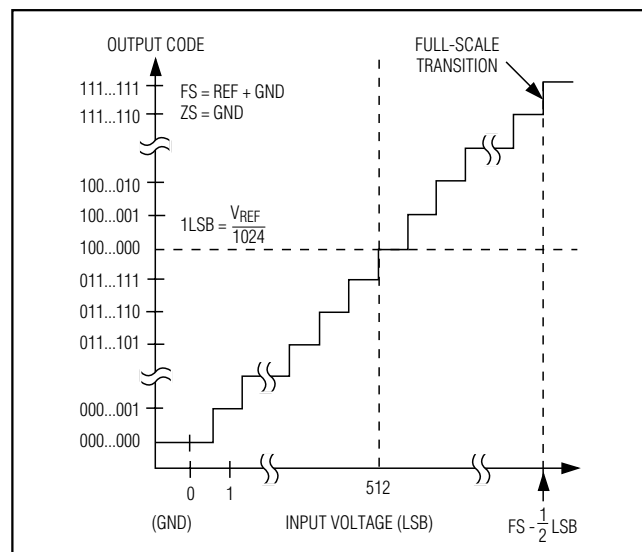
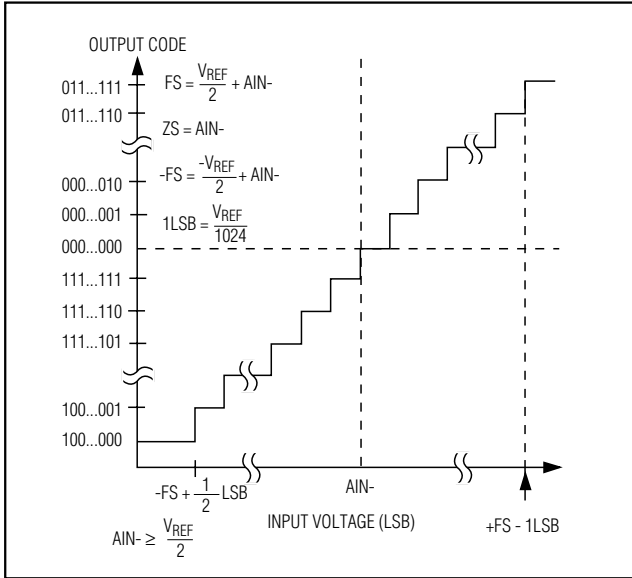

Figure 12. Unipolar Transfer Function
Figure 13. Bipolar Transfer Function
Output data coding for the MAX1136-MAX1139 is binary in unipolar mode and two's complement in bipolar mode with 1LSB = (VREF/2N) where 'N' is the number of bits (10). Code transitions occur halfway between successive-integer LSB values. Figure 12 and Figure 13 show the input/output (I/O) transfer functions for unipolar and bipolar operations, respectively.